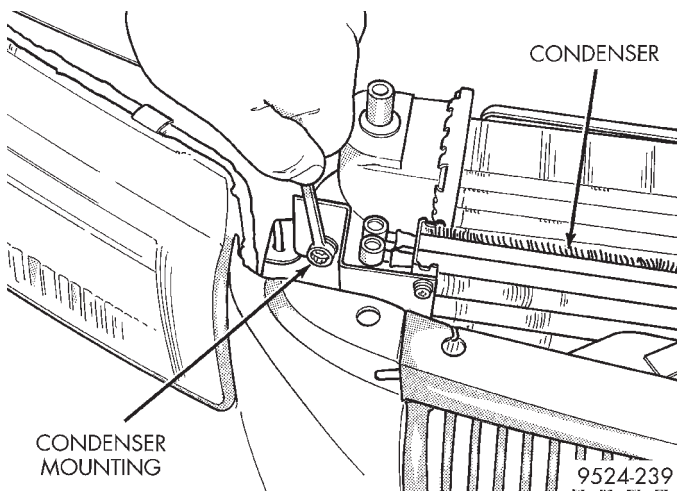

Fig. 27 Condenser Mounting
- (7) Remove condenser line support bracket.
- (8) Remove condenser mounting bolts (Fig. 27).